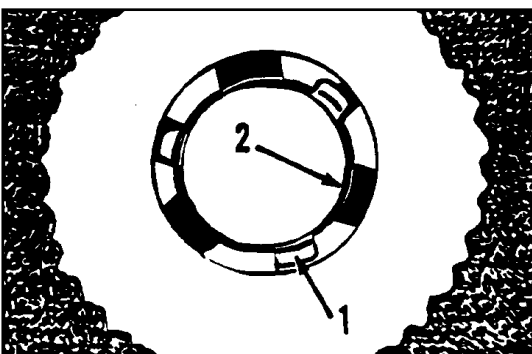

Figure 7
5. Align the lugs (1) on the locking plate into the pad driver adapter openings (2). See figure 7.